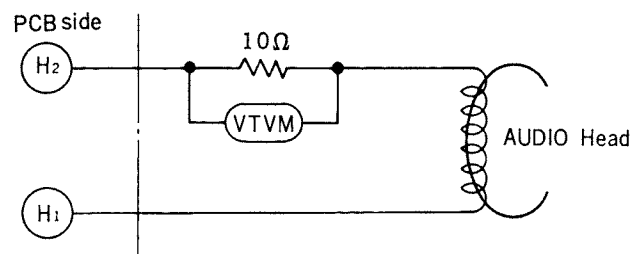

Fig. 15
1. Insert a 100Ω resistor between the H2 terminal on the printed circuit board and the audio record head, and connect a high-sensitivity VTVM capable of reading 1 mV across the resistor as shown in Fig. 15.